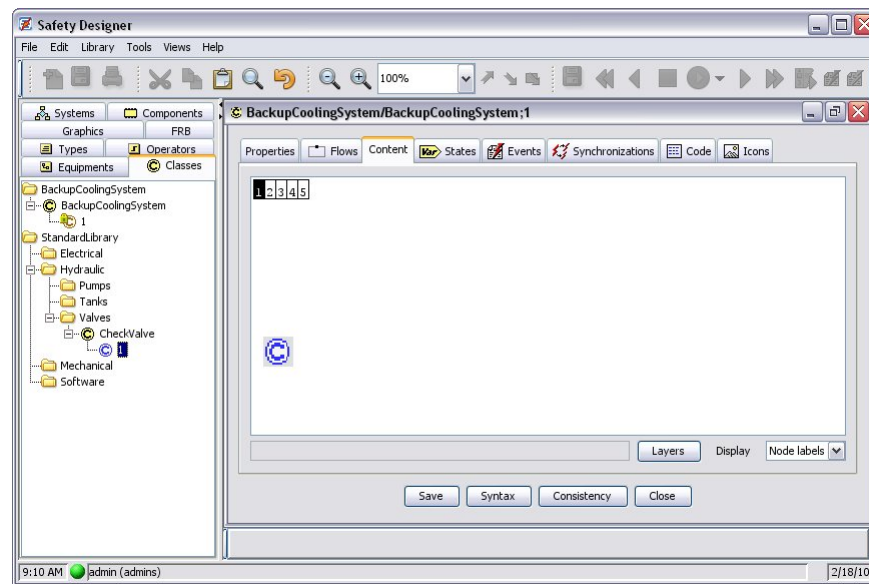

Figure 27: Dragging a model class for instantiation
- drag the selected element and drop it into the main frame (Figure 27: Dragging a model class for instantiation)